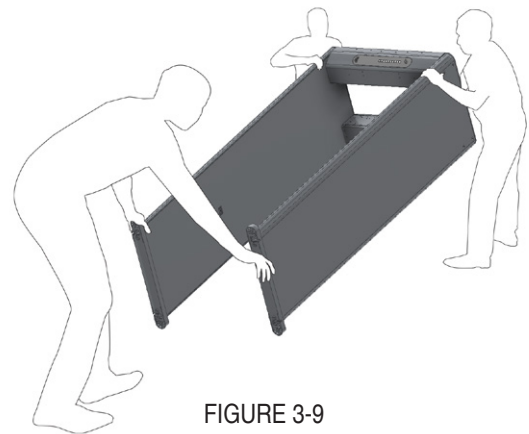

FIGURE 3-9
9. Use two or more people to lift *Paragon* to a vertical position and move to desired location. (See Figure 3-9.)